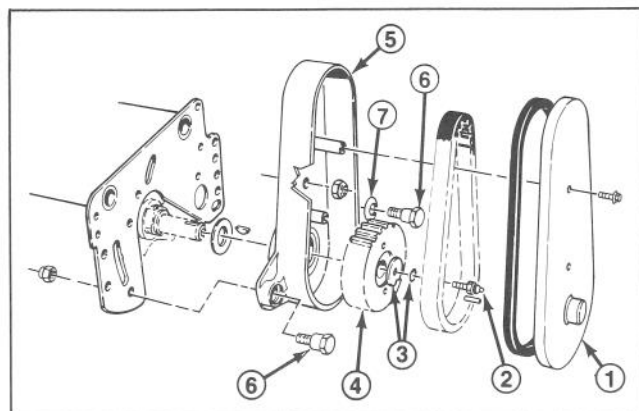

Figure 9
3. Remove (2) flange screws securing cover to drive housing and remove cover. Remove drive belt from housing (Fig. 9).